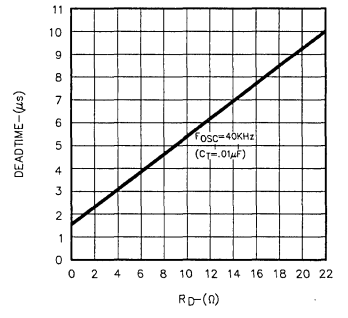

FIGURE 6. OUTPUT DRIVER DEADTIME VS.  $R_D$  VALUE
2. If more dead time is required, select a larger value of  $R_D$  using Figure 6 as a guide. At 40kHz dead time increases by 400nSec/ohm.